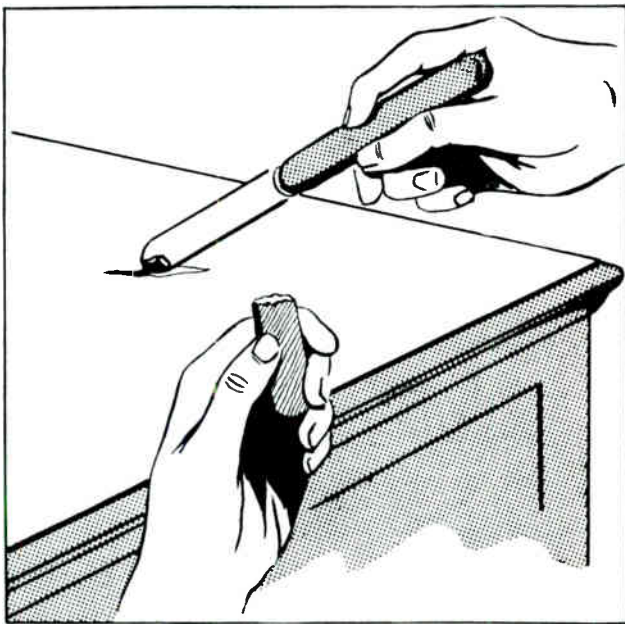

FIGURE 2
1. Fill up the scratch with burn-in wax using the matching shade of wax stick. (See Fig. 2.)